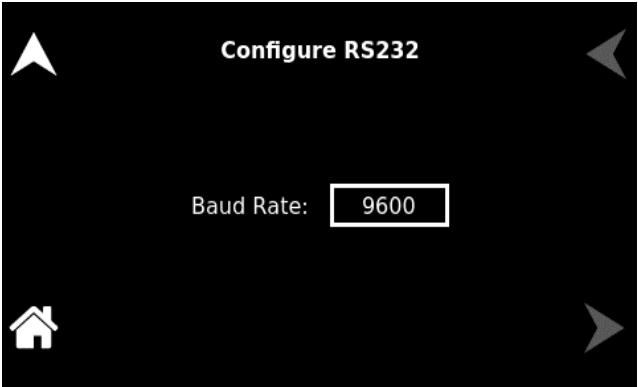
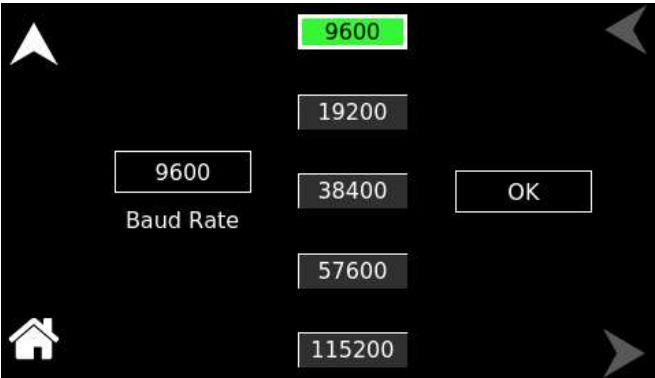

Figure 12-53. RS232 Screen -Configure
Figure 12-54. Baud Rate Selection
- b) **Configure RS232:** Configures the RS-232 Baud Rate, refer to Figure 12-53 and Figure 12-54. This setting must match those set for the communications port of the user external controller.